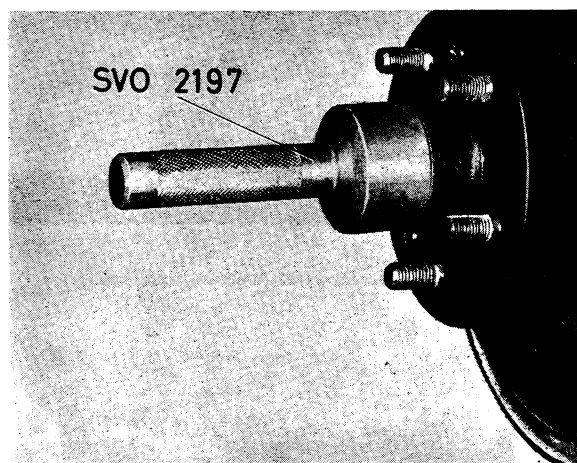
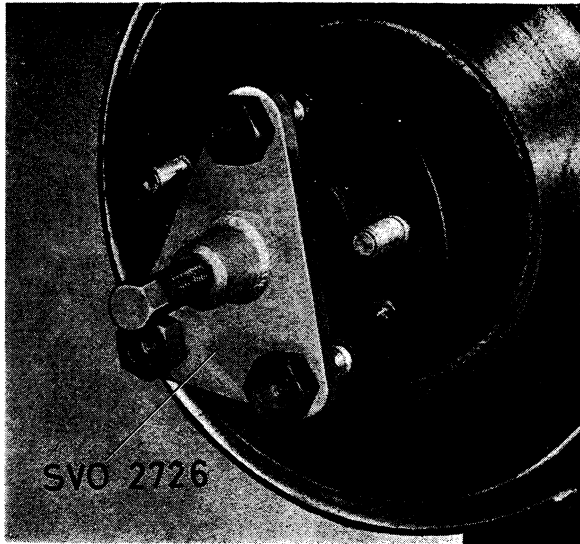
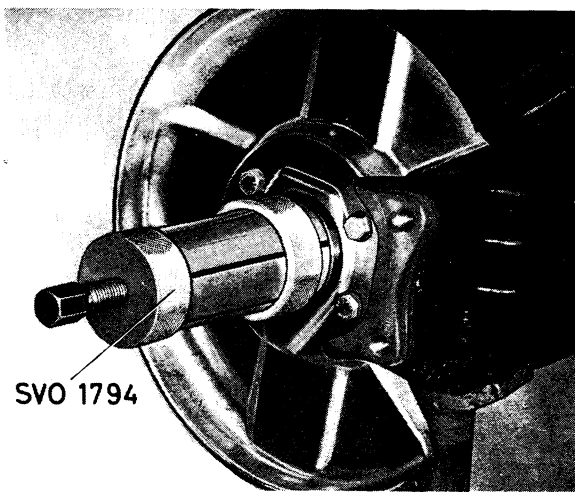

Fig. 7-16. Removing grease cap
Fig. 7-17. Removing hub
Fig. 7-18. Removing inner ring, inner bearing
3. Remove the grease cap with tool SVO 2197, see Fig. 7-16. Remove the split pin and castle nut. Pull off the hub with puller SVO 2726 (see Fig. 7-17). Pull off the inner bearing for the stub axle with puller SVO 1794 (Fig. 7-18) if the bearing is still fitted.